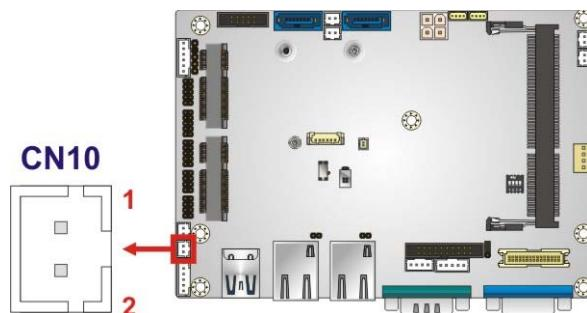

Figure 3-6: Chassis Intrusion Connector Location
**CN Location:** See Figure 3-6